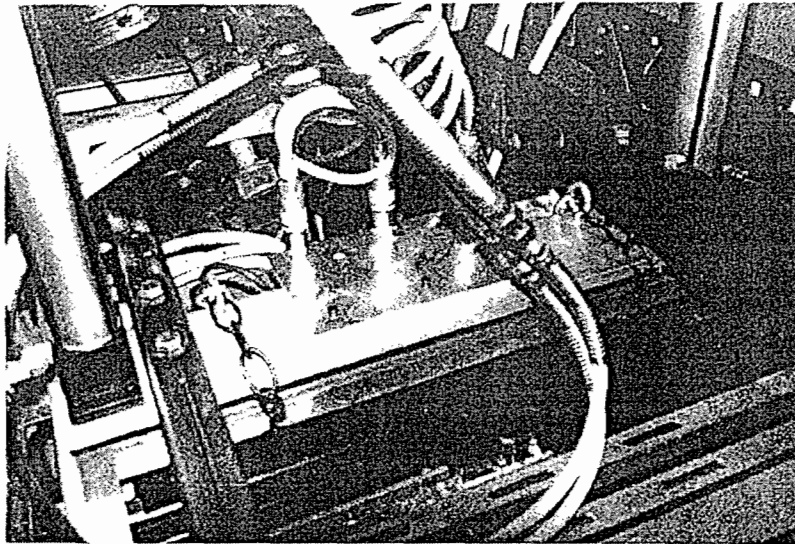

Figure 2.11.3: LFN Chains
2.11.6 Prepare 2 (two) size 1180 and 1 (one) size 1380 Binks spray tip. Also prepare 3 (three) nozzle filters. Pay particular attention to stray dirt and paint specks. Unchain the 2 chains restraining the LFN unit. (Figure 2.11.3)